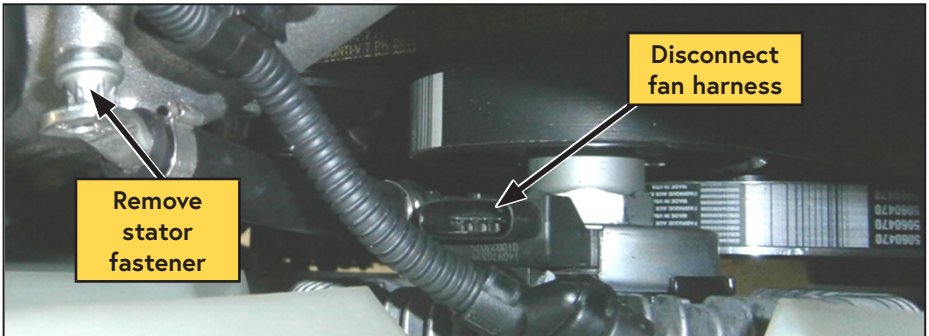

Figure 5 — Disconnect fan clutch
- Disconnect the fan clutch plug and remove the stator fastener using an E11 Torx socket (Figure 5).